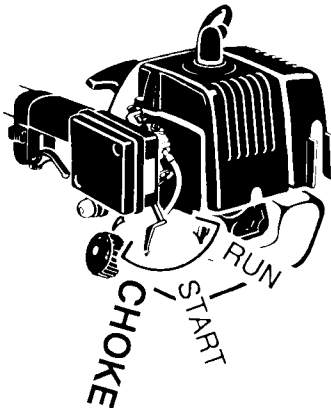

Figure 6-1B
1. Move choke lever to "CHOKE" position. (Figure 6-1B)